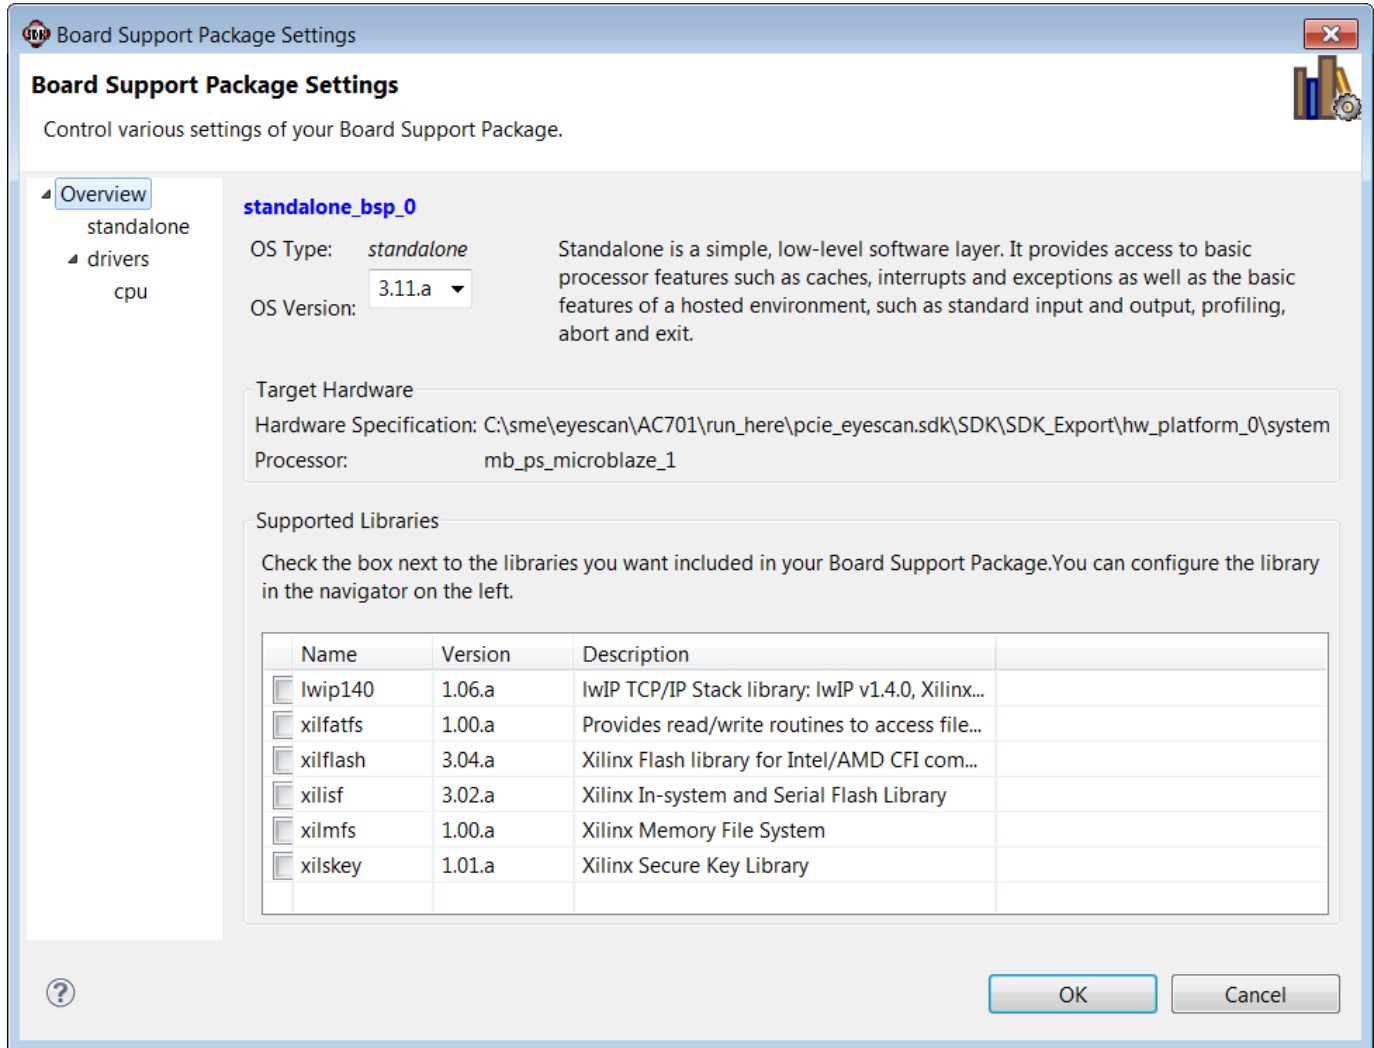

Figure 14: BSP Settings
7. Select the default options for the BSP shown in Figure 14.